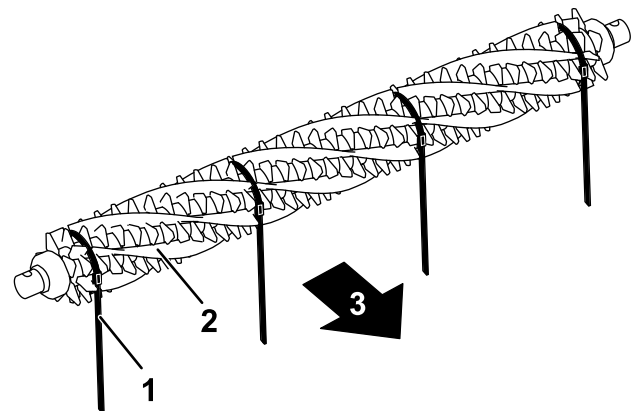

Figure 19
3. From 1 side of the groomer reel, slide a brush into each groove around the full length of the groomer reel (Figure 19).
Important: Wrap the straps around the groomer blade and brush assembly in the primary rotating direction. Figure 19 shows the straps installed for forward rotation.